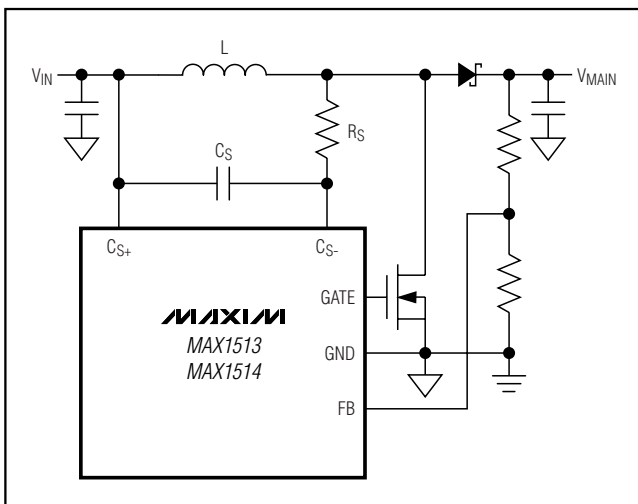
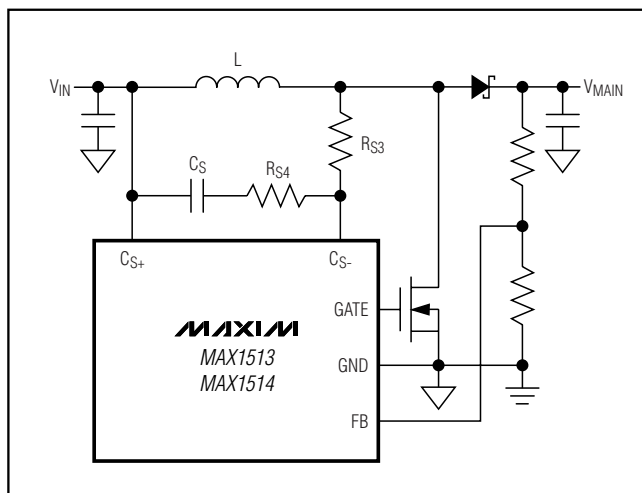

Figure 8. Lossless Current Sensing with $80mV < V_{SENSE} < 100mV$
Figure 10. Lossless Current Sensing with $V_{SENSE} < 80\text{mV}$
4) Compare the calculated sense voltage with the minimum value of the current-limit threshold in the *Electrical Characteristics* (100mV). If the sense voltage is between 80mV and 100mV, use the current-sense configuration in Figure 8 with the calculated C_S and R_S above.
6) If V_{SENSE} is less than 80mV, the current-feedback signal is low relative to the current-limit threshold. Use the Figure 8 configuration, or, if good current-limit accuracy is desired, use the optional current-sense configuration in Figure 10 to increase the amplitude of the sense signal. Calculate R_{S3} and R_{S4} :
Because V_{SENSE} would be between 80mV and 100mV, the circuit in Figure 8 should be used. The closest 1% standard value for R_S is 909 Ω .
Because V_{SENSE} would be much less than 80mV , the circuit in Figure 10 can be used to improve the current-limit accuracy. Calculate R_{S3} and R_{S4} :